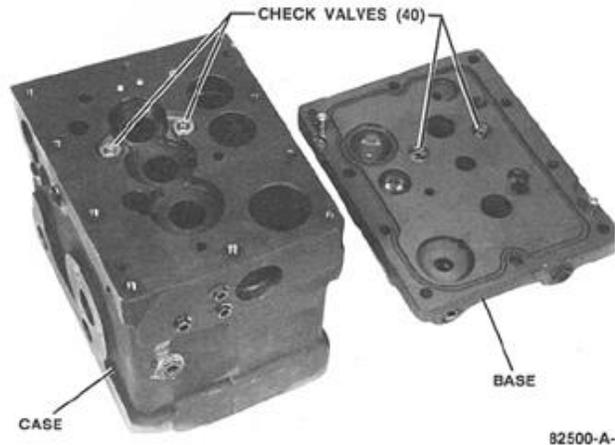

Figure 5-3. Check Valve Installation
2. Install check valves in the case bottom and base as shown in Figure 5-3.